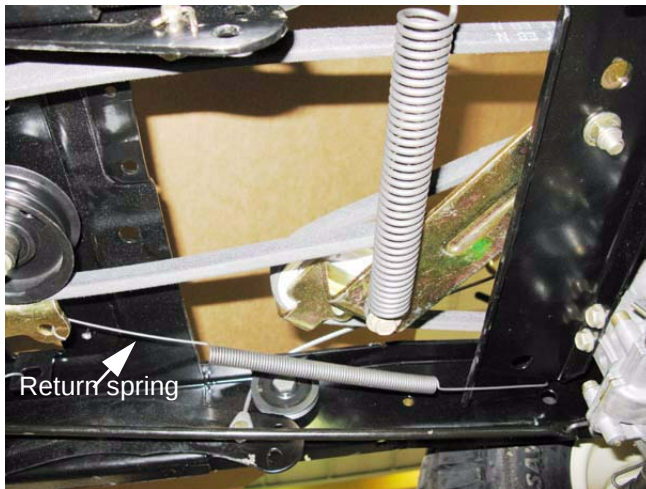

Figure 6.50
4. Disconnect the light extension spring that returns the bracket and pulley to the relaxed position when the drive pedal is released. See Figure 6.50.